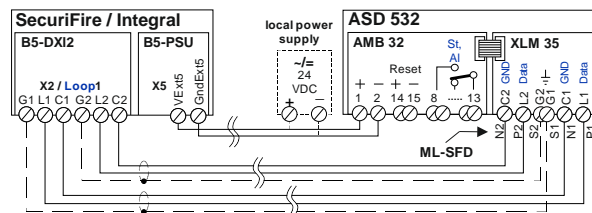

Fig. 39 Connection from XLM 35 / ML-SFD
- The connection and line routing between **XLM 35 / ML-SFD** and the SecuriFire and Integral FACP is to be carried out in accordance with **Fig. 39** (L1 to L1, C1 to C1, etc.).